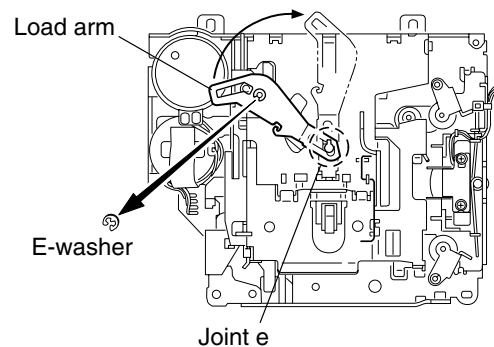

Fig.5
■ Removing the load arm (See Fig.5)